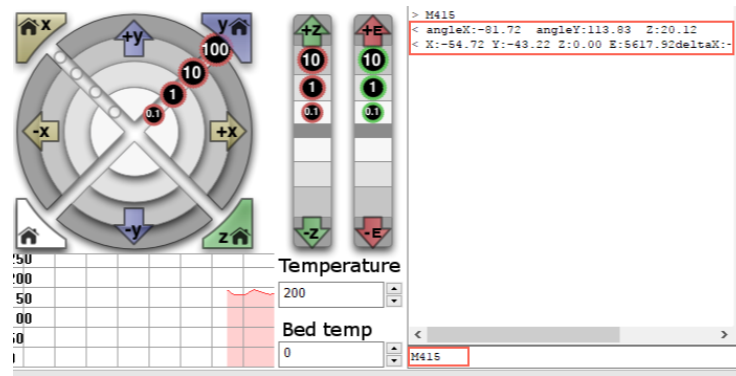

Figure 5.154 Input command M415
2. Input command **M415** on the lower right of the **Operational** page to get the current coordinates, as shown in Figure 5.154.